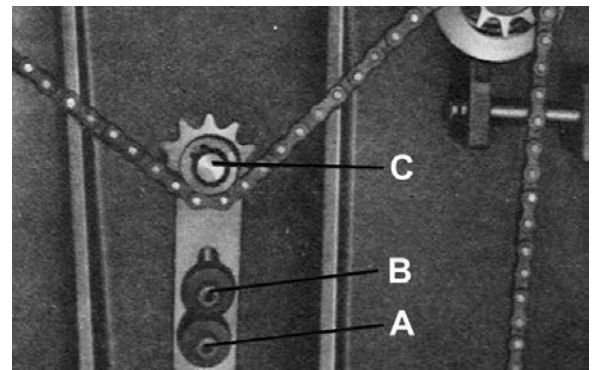
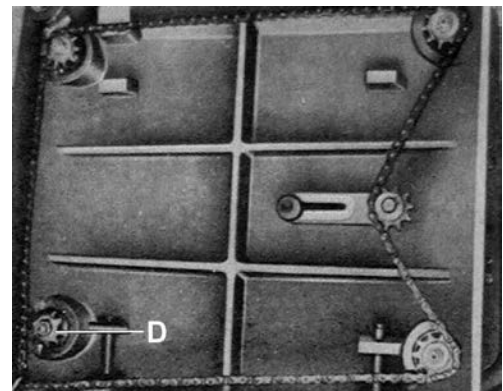

FIGURE 19
FIGURE 20
2. Tilt Planer on its side to expose the underside of the base as shown in Fig. 19.
3. Remove bolt (A) and loosen bolt (B) Fig.19, these two bolts will allow you to move the idler sprocket assembly (C) far enough to release tension on the chain as shown in Fig.20.
4. Remove chain from the sprocket from the corner which needs adjusting. Fig.20 shows the chain removed from the sprocket (D).
5. Turn sprocket (D) by hand to bring that corner into adjustment with the other three corners.
**IMPORTANT NOTE:** Turning sprocket (D) clockwise will increase the distance between the work table and the head casting, counterclockwise will decrease the distance. This adjustment is very sensitive and it should not be necessary to turn the sprocket more than one or two teeth.